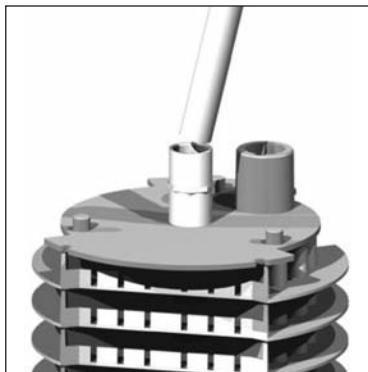

Figure 4
3. Prime and glue the filter handle to the top plate of the filter cartridge. Extend the handle, as required, to make it accessible from finished grade (figure 4).